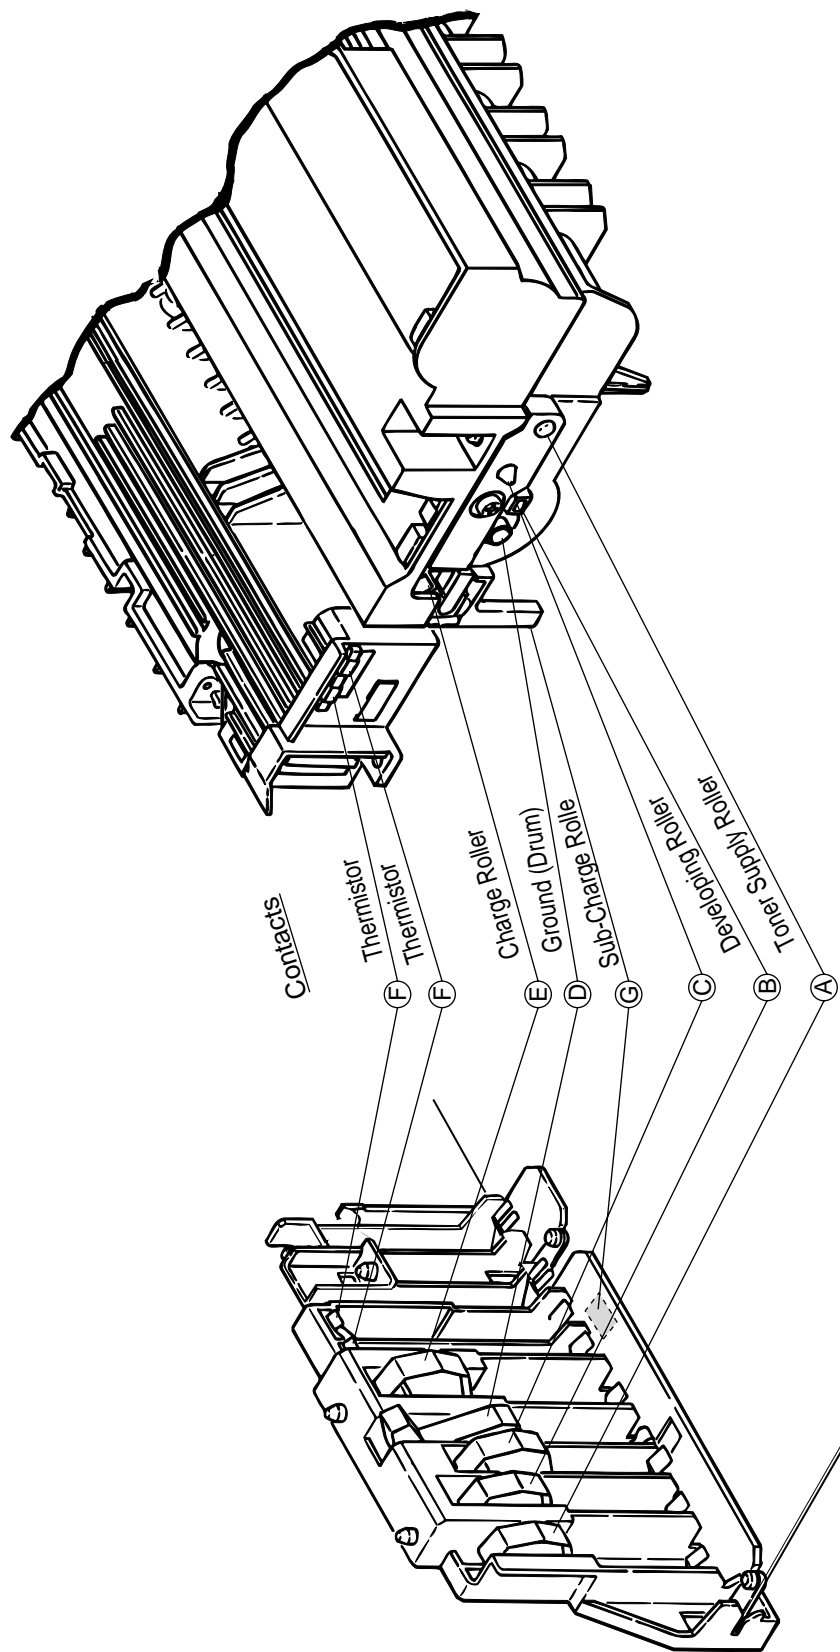

Figure 6-4
- Yes Check the heat contacts of the fusing unit and the contact assembly for poor contact (see Figure 6-4 contact ㉔).
- ▼ Yes Are the contact of the developing roller and the contact of the toner supply roller of the image drum cartridge in contact with the contact assembly properly (see Figure 6-4 (A) and (B))?